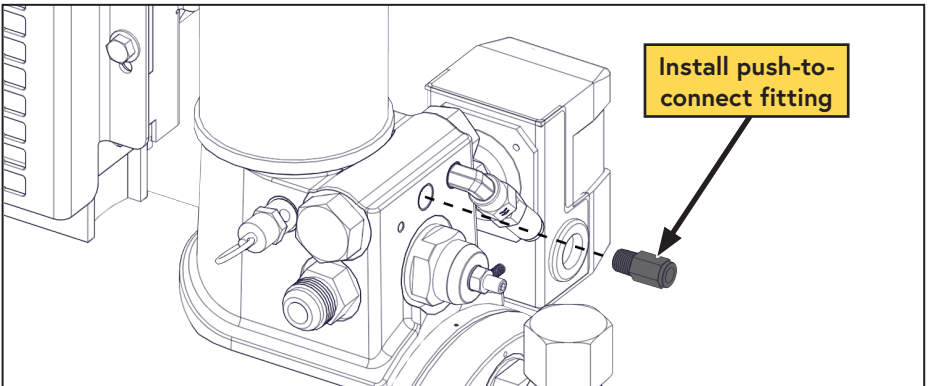

Figure 42 — Install push-to-connect fitting
- Apply Loctite 567 (thread sealing) compound to the 1/4 in push-to-connect fitting and install it into the threaded hole which previously held the blowdown muffler (Figure 42).